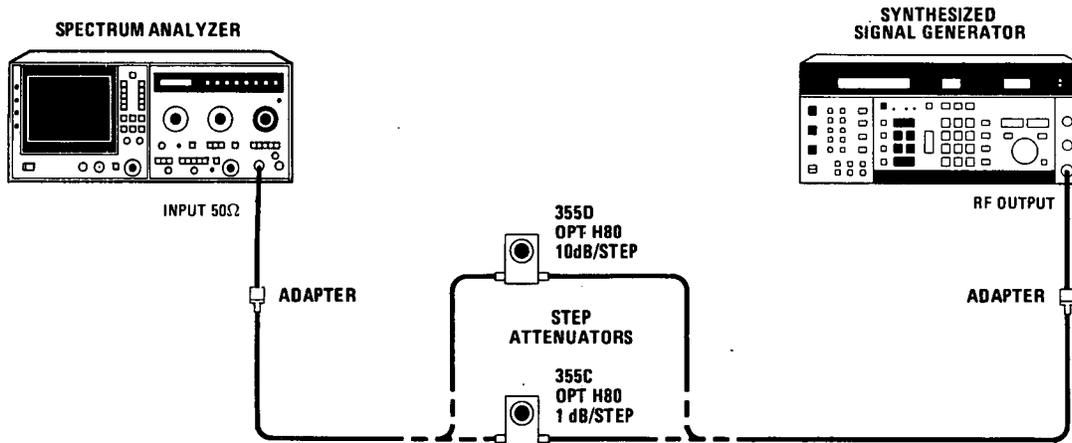

Figure 4-12. Reference Level Variation Test Setup
3. Connect equipment as shown in Figure 4-12 using 10-dB step attenuator. Set step attenuator at 0 dB and adjust spectrum analyzer TUNING control to center signal on CRT.